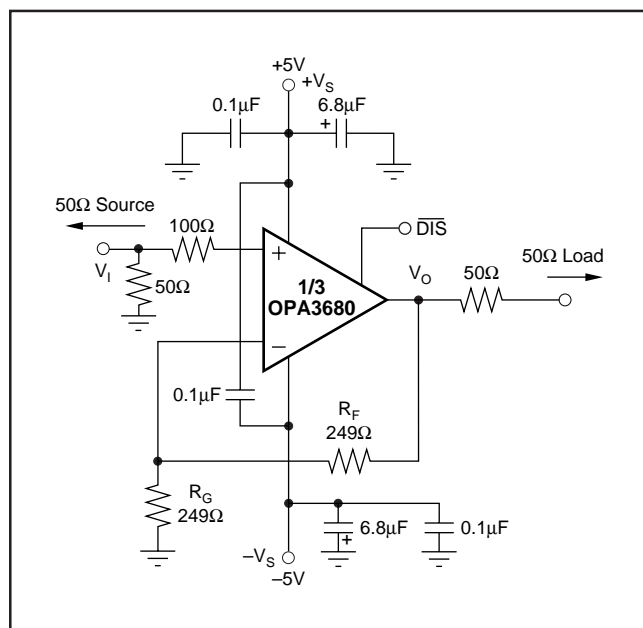
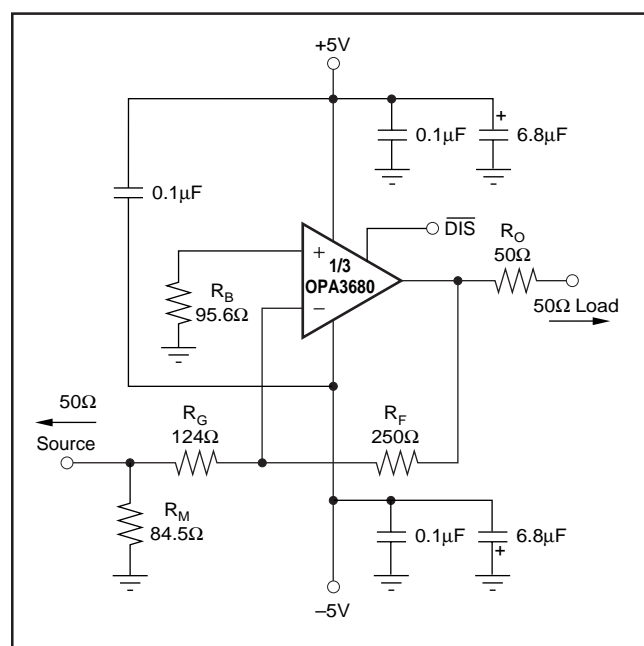

FIGURE 1. DC-Coupled, $G = +2$, Bipolar Supply, Specification and Test Circuit.
FIGURE 9. Gain of -2 Example Circuit.
At $T_A = +25^\circ C$, $G = +2$, $R_F = 250\Omega$, and $R_L = 100\Omega$, unless otherwise noted. See Figure 1.
Figure 1 shows the DC-coupled, gain of +2, dual power supply circuit configuration used as the basis of the $\pm 5\text{V}$ Specifications and Typical Performance Curves. For test purposes, the input impedance is set to 50Ω with a resistor to ground and the output impedance is set to 50Ω with a series output resistor. Voltage swings reported in the specifications are taken directly at the input and output pins, while output powers (dBm) are at the matched 50Ω load. For the circuit of Figure 1, the total effective load will be $100\Omega \parallel 498\Omega$. The disable control line is typically left open to guarantee normal amplifier operation. Two optional components are included in Figure 1. An additional resistor (100Ω) is included in series with the non-inverting input. Combined with the 25Ω DC source resistance looking back towards the signal generator, this gives an input bias current cancelling resistance that
A good rule of thumb is to target the parallel combination of R_F and R_G (Figure 1) to be less than approximately 125Ω . The combined impedance $R_F \parallel R_G$ interacts with the inverting input capacitance, placing an additional pole in the feedback network and thus, a zero in the forward response. Assuming a $3pF$ total parasitic on the inverting node, holding $R_F \parallel R_G < 125\Omega$ will keep this pole above $400MHz$. By itself, this constraint implies that the feedback resistor R_F can increase to several $k\Omega$ at high gains. This is acceptable as long as the pole formed by R_F and any parasitic capacitance appearing in parallel with it is kept out of the frequency range of interest.
Voltage-feedback op amps exhibit decreasing closed-loop bandwidth as the signal gain is increased. In theory, this relationship is described by the Gain Bandwidth Product (GBP) shown in the specifications. Ideally, dividing GBP by the non-inverting signal gain (also called the Noise Gain, or NG) will predict the closed-loop bandwidth. In practice, this only holds true when the phase margin approaches 90° , as it does in high gain configurations. At low gains (increased feedback factors), most amplifiers will exhibit a more complex response with lower phase margin. The OPA3680 is compensated to give a slightly peaked response in a non-inverting gain of 2 (Figure 1). This results in a typical gain of +2 bandwidth of $220MHz$, far exceeding that predicted by dividing the $300MHz$ GBP by 2. Increasing the gain will cause the phase margin to approach 90° and the bandwidth to more closely approach the predicted value of (GBP/NG) . At a gain of +10, the $30MHz$ bandwidth shown in the Typical Specifications agrees with that predicted using the simple formula and the typical GBP of $300MHz$.
Frequency response in a gain of +2 may be modified to achieve exceptional flatness simply by increasing the noise gain to 2.5. One way to do this, without affecting the +2 signal gain, is to add a 453Ω resistor across the two inputs in the circuit of Figure 1. A similar technique may be used to reduce peaking in unity gain (voltage follower) applica-
Since the OPA3680 is a general purpose, wideband voltage feedback op amp, all of the familiar op amp application circuits are available to the designer. Inverting operation is one of the more common requirements and offers several performance benefits. Figure 9 shows a typical inverting configuration where the I/O impedances and signal gain from Figure 1 are retained in an inverting circuit configuration.
advantage that the noise gain becomes equal to 2 for a 50Ω source impedance—the same as the non-inverting circuits considered above. However, the amplifier output will now see the 100Ω feedback resistor in parallel with the external load. In general, the feedback resistor should be limited to the 100Ω to 1.5kΩ range. In this case, it is preferable to increase both the R_F and R_G values as shown in Figure 9 and then achieve the input matching impedance with a third resistor (R_M) to ground. The total input impedance becomes the parallel combination of R_G and R_M .
The second major consideration, touched on in the previous paragraph, is that the signal source impedance becomes part of the noise gain equation and hence influences the bandwidth. For the example in Figure 9, the R_M value combines in parallel with the external 50Ω source impedance, yielding an effective driving impedance of $50\Omega \parallel 84.5\Omega = 31.4\Omega$. This impedance is added in series with R_G for calculating the noise gain (NG). The resultant NG is 2.6 for Figure 9, as opposed to only 2 if R_M could be eliminated as discussed above. The bandwidth will therefore be slightly lower for the gain of -2 circuit of Figure 9 than for the gain of $+2$ circuit of Figure 1.
The third important consideration in inverting amplifier design is setting the bias current cancellation resistor on the non-inverting input (R_B). If this resistor is set equal to the total DC resistance looking out of the inverting node, the output DC error, due to the input bias currents, will be reduced to (Input Offset Current) • R_F . If the 50Ω source impedance is DC-coupled in Figure 9, the total resistance to ground on the inverting input will be 155Ω. Combining this in parallel with the feedback resistor gives the $R_B = 95.6\Omega$ used in this example. To reduce the additional high frequency noise introduced by this resistor, it is sometimes bypassed with a capacitor. As long as $R_B < 350\Omega$, the capacitor is not required since the total noise contribution of all other terms will be less than that of the op amp's input noise voltage. As a minimum, the OPA3680 requires an R_B value of 50Ω to damp out parasitic-induced peaking—a direct short to ground on the non-inverting input runs the risk of a very high frequency instability in the input stage.
The distortion plots show which changes in operation will improve distortion. Increasing the load impedance improves distortion directly. Remember that the total load includes the feedback network; in the non-inverting configuration (Figure 1) this is sum of $R_F + R_G$, while in the inverting configuration (Figure 9), it is just R_F . Also, providing an additional supply decoupling capacitor (0.1μF) between the supply pins (for bipolar operation) improves the 2nd-order distortion slightly (3dB to 6dB).
Evaluating these two equations for the OPA3680 circuit and component values shown in Figure 1 will give a total output spot noise voltage of $11\text{nV}/\sqrt{\text{Hz}}$ and a total equivalent input spot noise voltage of $5.5\text{nV}/\sqrt{\text{Hz}}$. This is including the noise added by the bias current cancellation resistor (100Ω) on the non-inverting input. This total input-referred spot noise voltage is only slightly higher than the $4.8\text{nV}/\sqrt{\text{Hz}}$ specification for the op amp voltage noise alone. This will be the case as long as the impedances appearing at each op amp input are limited to the previously recommend maximum value of 125Ω . Keeping both ($R_F \parallel R_G$) and the non-inverting input source impedance less than 125Ω will satisfy both noise and frequency response flatness considerations. Since the resistor-induced noise is relatively negligible, additional capacitive decoupling across the bias current cancellation resistor (R_B) for the inverting op amp configuration of Figure 9 is not required.
The balanced input stage of a wideband voltage feedback op amp allows good output DC accuracy in a wide variety of applications. The power supply current trim for the OPA3680 gives even tighter control than comparable products. Although the high speed input stage does require relatively high input bias current (typically $14\mu\text{A}$ out of each input terminal), the close matching between them may be used to reduce the output DC error caused by this current. The total output offset voltage may be considerably reduced by matching the DC source resistances appearing at the two inputs. This reduces the output DC error due to the input bias currents to the offset current times the feedback resistor. Evaluating the configuration of Figure 1, using worst-case $+25^\circ\text{C}$ input offset voltage and current specifications, gives